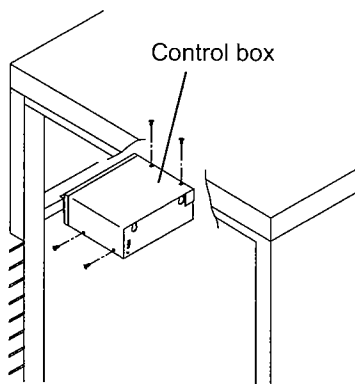

Fig. 3
3. Loosen 2 upper screws and remove 2 screws on the right, and remove control box cover. (Fig. 3)
4. Remove 4 fixing screws on the control box to remove the control box cover. (Fig. 3)